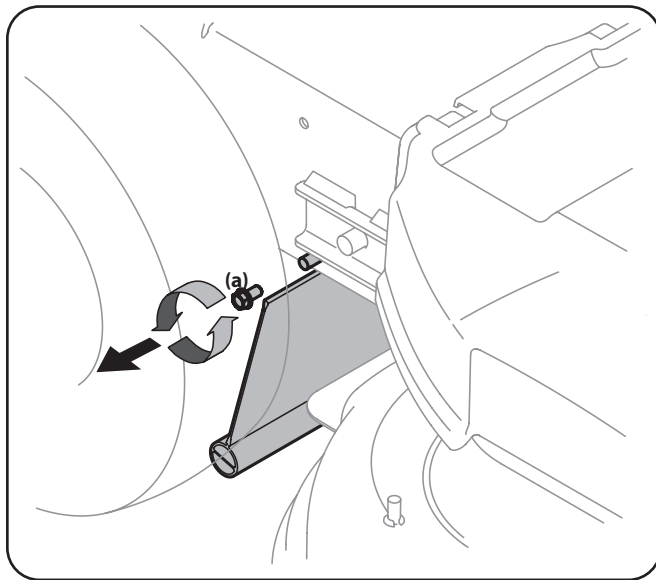

Figure 7-7
- Remove the screw (a) which secures the trail shield to the right side of the mower. See Figure 7-7.